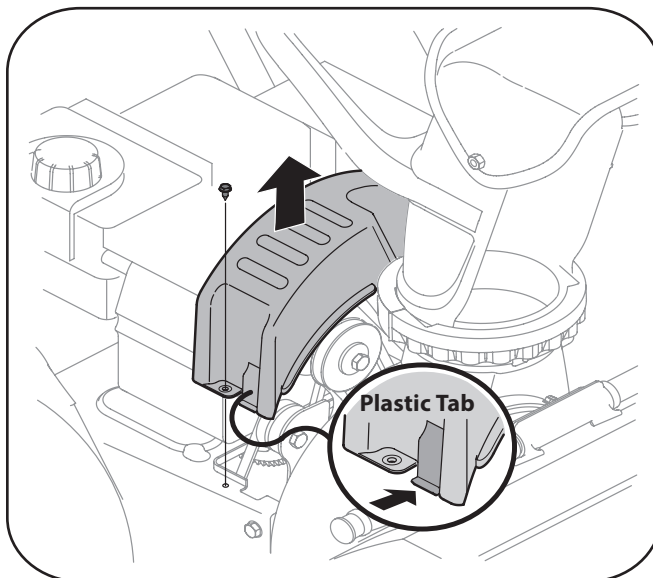

Figure 7-1
1. Remove the plastic belt cover on the front of the engine by removing the self-tapping screw and pressing the plastic tabs to release the belt cover. See Figure 7-1 in the Service section of this manual.
3. Remove the self-tapping screw shown in Figure 7-1, and press the plastic tabs to release the belt cover. Pull the belt cover up and out from around the engine and chute assembly. Set it aside and save.